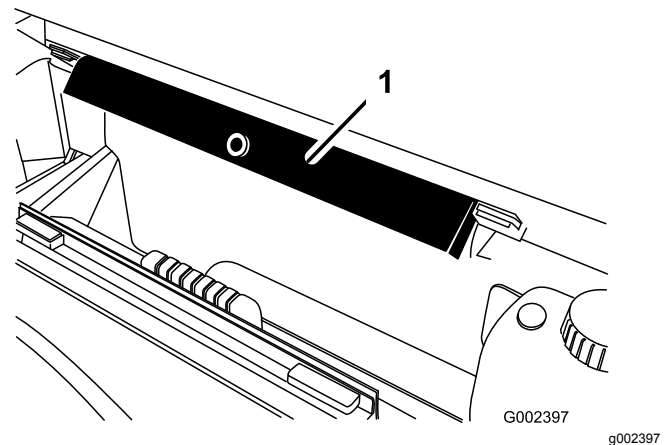

Figure 97
8. Remove the bed support from the storage brackets at back of the ROPS panel (Figure 97).